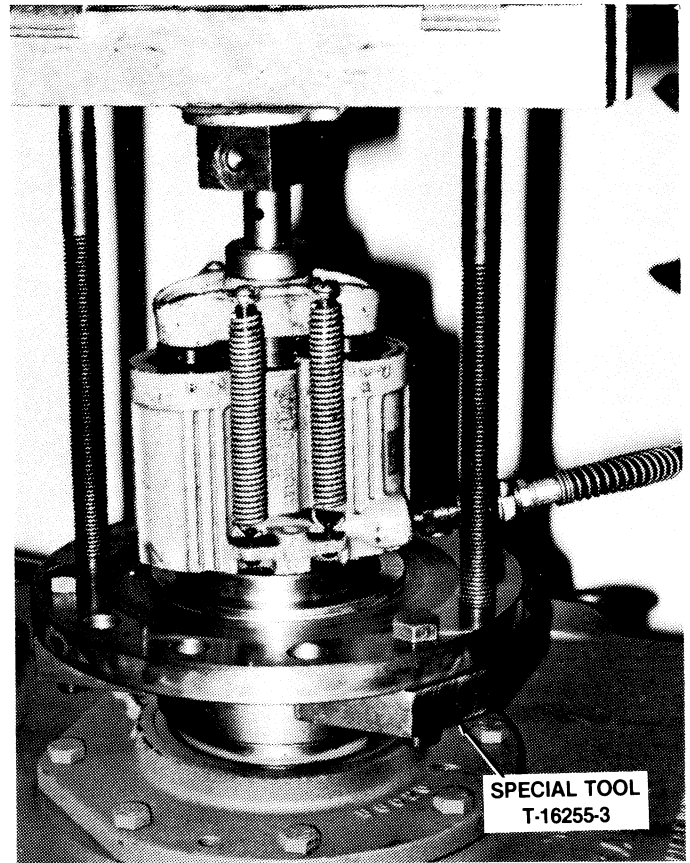

Figure 6-25. Using Hydraulic Press and Special Tool T-16255-3 to Remove Output Flange.
6. Remove the output flange. See Figure 6-25.